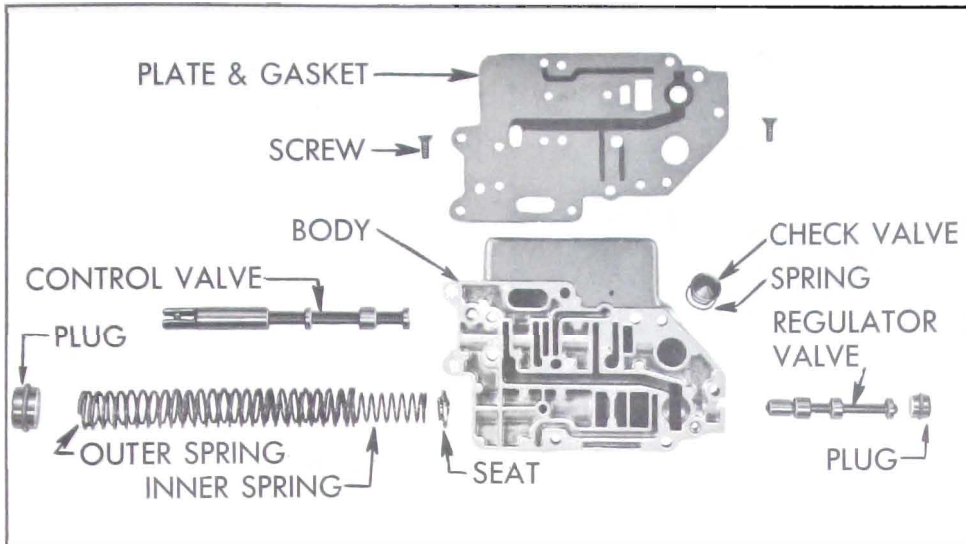

Figure 5-77—Valve Body Disassembled
1. Place front pump delivery check valve spring in body with large end down and place check valve on spring with ridged side up. See Figure 5-77.